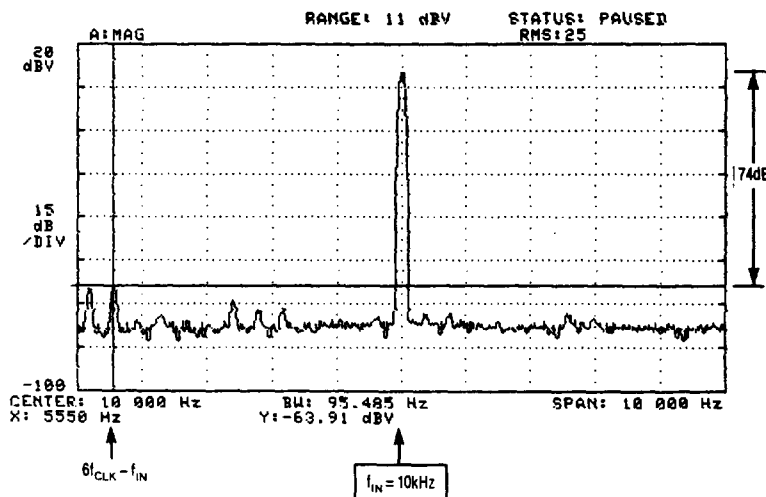

Figure 5B. Same as Figure 5A, but the AC Input Signal is 900mV, 10kHz
- The number of alias signals increases when the input signal frequency increases, Figure 5B.
- When the frequency, f_{IN} , of the input signal is less than f_{CLOCK} , the alias signal(s) amplitude(s) directly scale with the amplitude of the incoming signal. The output "signal to alias ratio" cannot be increased by just boosting the input signal amplitude. However, when the input AC signal frequency well exceeds the clock frequency, the amplitude of the alias signals does not directly scale with the input amplitude. The "signal to alias ratio" increases when the output swings closely to the rails, Figures 5B, 7. It is important to note that the